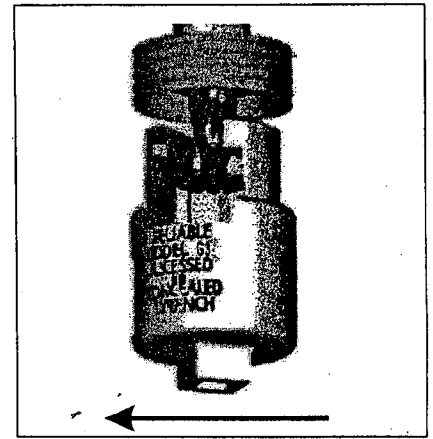
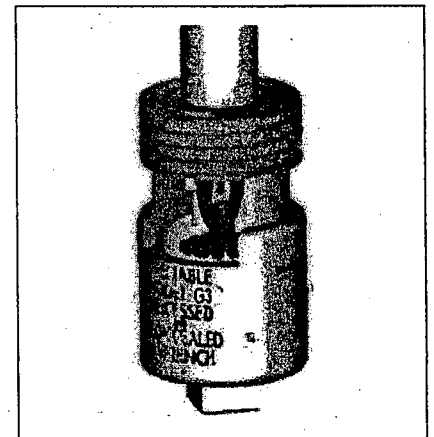

Fig. 1 - G3 R/C Wrench
Fig. 3 - G3 R/C Wrench
- The Model G3 R/C wrench (Fig. 1) is designed to locate on the wrenching pads of the recessed sprinkler while centering in the cup. A standard $\frac{1}{2}$ " drive ratchet may be used to drive this wrench. Figures 1 and 2 show sequentially the insertion of the wrench. First the wrench, with its jaws above the sprinkler deflector, is moved laterally until centered with the cup. Then raise the wrench inside of the cup until its jaws engage the sprinkler's square wrenching pads (Fig. 3). To remove the wrench, follow this procedure in reverse order. Care should be taken to avoid striking the deflector, with the wrench.